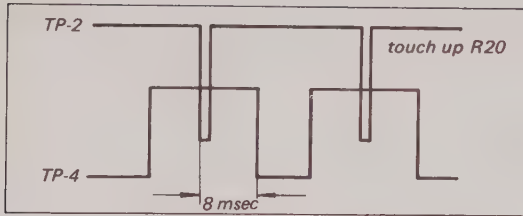

Fig. 7-9. Tracking control range final check
9. Turn TRACKING control fully clockwise. Trailing edge of signal at TP-4 should lag the leading edge of the CTL pulse by 8 msec. See Fig. 7-9.